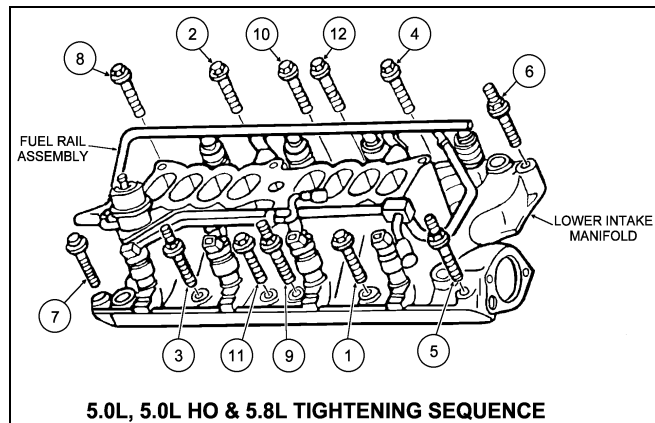

Figure 6
- Torque the lower intake bolts in the sequence shown in Figure 6. Torque the lower intake bolts to 15 ft./lbs., and repeat the torque sequence to a final torque of 22-24 ft./lbs.